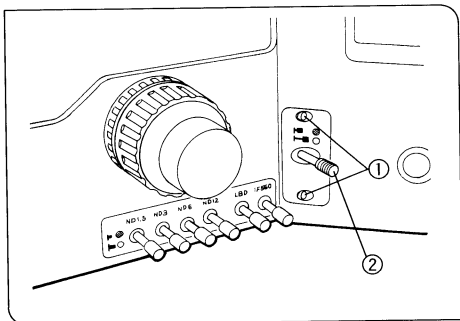

Fig. 26
(Figs. 26, 27)
1. Using the Allen screwdriver, loosen the filter clamping screws ①.
2. Pull out the optional filter slider by pulling at the filter lever ②. (Fig. 26)